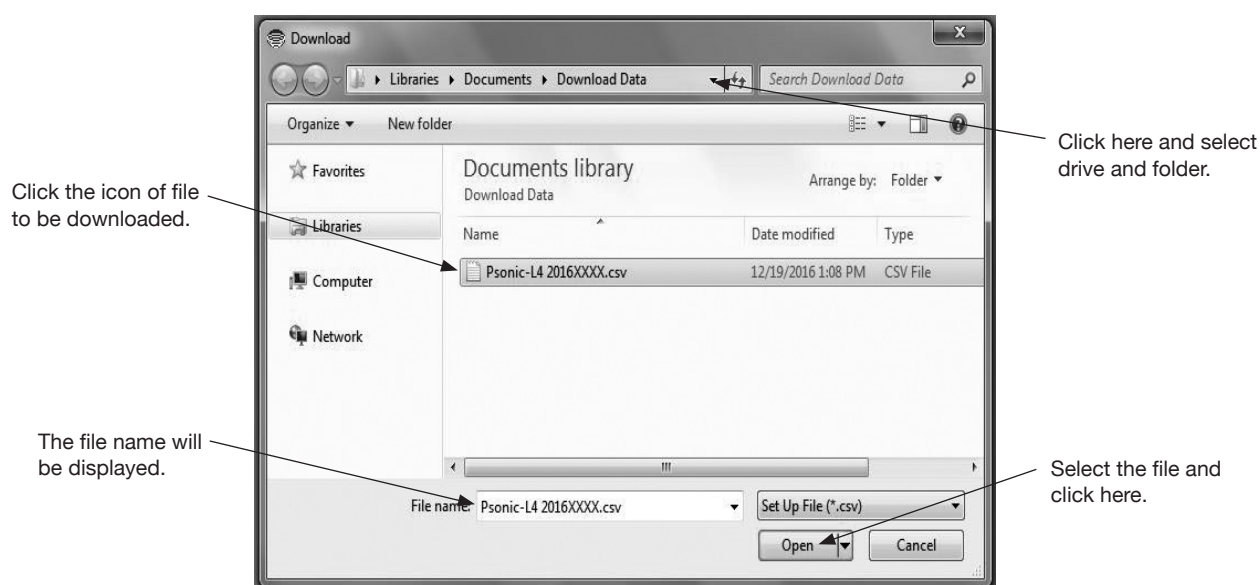

Fig. 3-89
- (2) After the confirmation of flowmeter, the file to be downloaded will be read out.
- (3) Click "File (F)" from the menu, and click "Download (D)" from the drop-down list of "Database (F)" again.
- (4) The common dialog box (Fig. 3-89) will be displayed. Select the drive and folder where the file to be downloaded is stored from the drop-down list.
- (5) Click and select the file to be downloaded. Verify "File name (N)" and click "Open (O)" button. Click "Cancel" button to exit the operation without downloading the file.